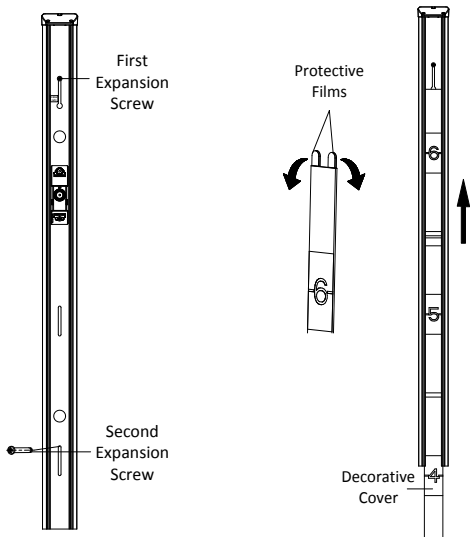

Figure 2-21 Secure Base on Wall
8. Install the second expansion screw. Tighten the first expansion screw. See Figure 2-21.